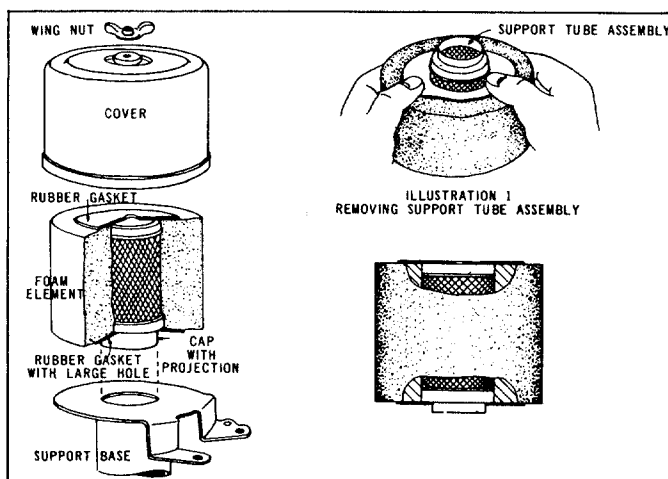

FIGURE 9. AIR CLEANER
3. Remove metal support tube assembly (screen and two metal end caps) from foam element by compressing foam element. See figure 9.
6. Install element and cover. Tighten wing nut securely. See figure 9.